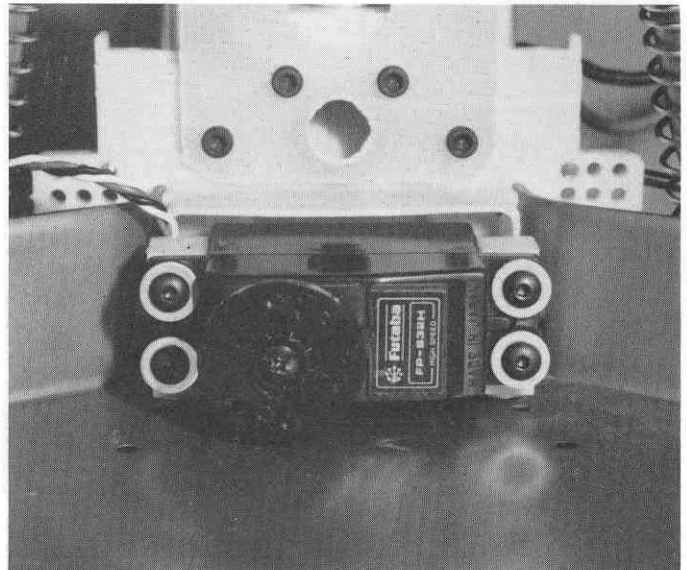

Fig. 151
□ **Fig. 151** Install the servo to chassis, as shown. It is important that the servo mount high enough to allow the servo wheel to clear the chassis by about 1/8" (3.1mm). Add washers under the mounts if necessary to give the required clearance.